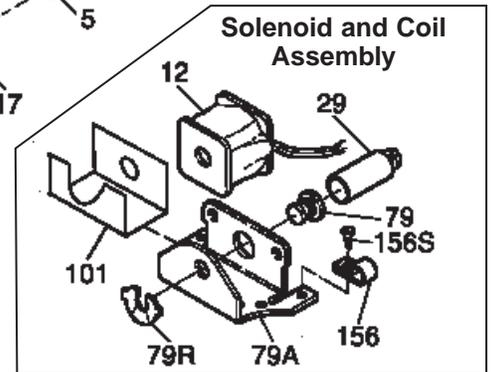

Figure 3
1. De-energize and disconnect coil (12) from circuit.
2. Unscrew the two hex housing studs (150). Remove the two lock washers (150W) and the coil assembly (78) from the solenoid studs (3E) of endplate.
3. Use screwdriver to compress retaining ring (79R) until its prongs enter shading pole groove, allowing ring to be pushed off. See Figure 3.
4. Remove shading pole (79), tapping lightly if necessary.
6. New coil must be installed with bobbin (190) guide lip fitting into large (bottom) hole in coil support bracket (79A). Be careful not to shear lip off, but once it has started into "U" frame, a rod can be used in that (large) hole to work coil into place, until lip snaps into hole.